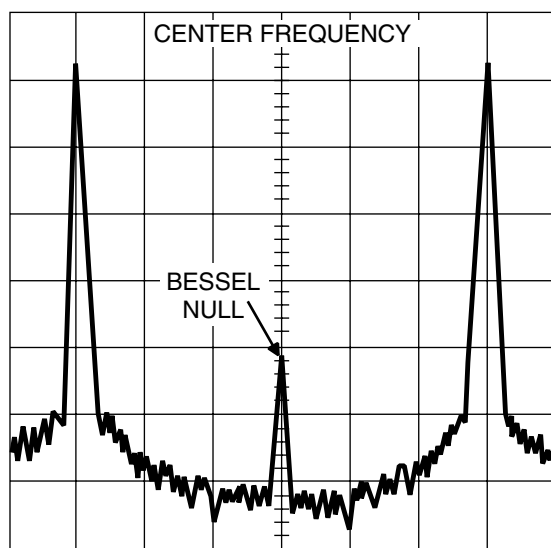

Figure 3-9. Typical Spectrum Analyzer Display of Bessel Null on FM Waveform
5. On the 682XXB/683XXB, use the cursor control key to place the cursor under the last 0 in the deviation setting (0.240 MHz). While observing the first Bessel null (Figure 3-9), increase/decrease the deviation frequency with the cursor control key to reduce the carrier as low as possible.
4. On the 682XXB/683XXB, use the cursor control key to place the cursor under the last 0 in the deviation setting (0.240 MHz). While observing the first Bessel null (Figure 3-9), increase/decrease the deviation frequency with the cursor control key to reduce the carrier as low as possible.